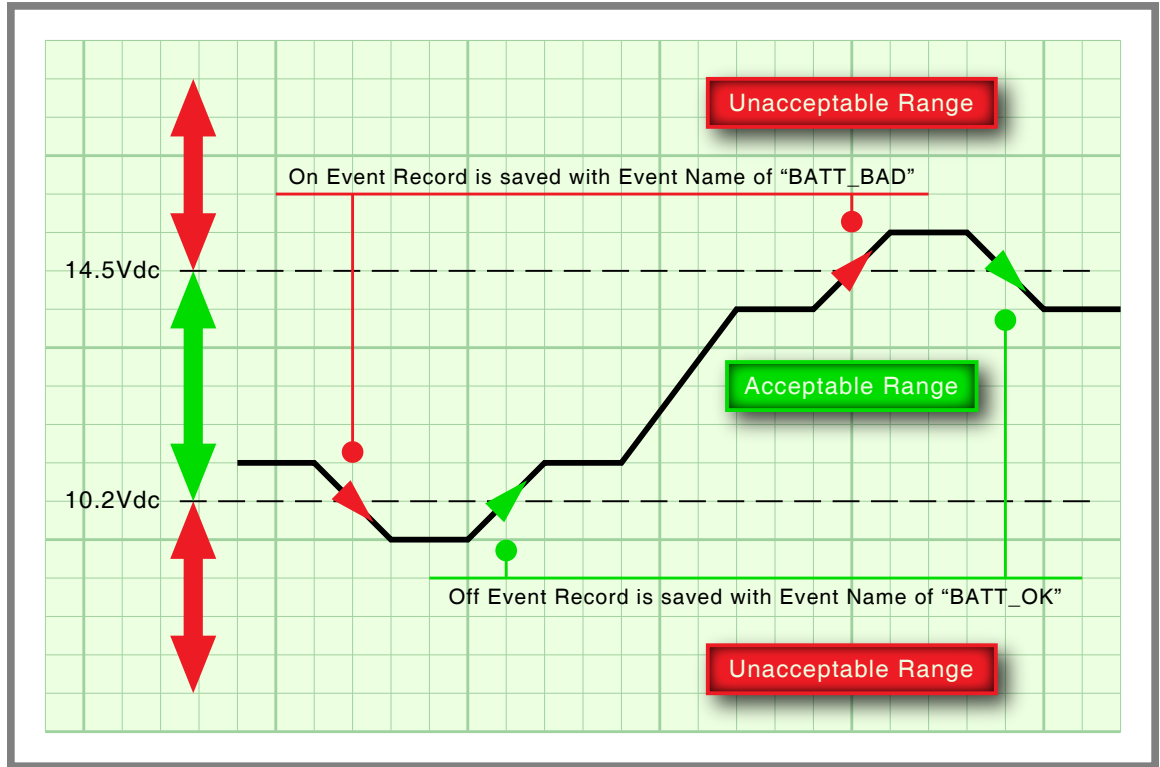

Figure 3: Analog Input Operating Ranges and Limit Values
Figure 3 on page 26 illustrates the relationship of the High and Low Limit Values to the Analog Input state. Each range defines the type of Event Record that is created by transitions of the input. The figure depicts an Analog Input configured to monitor a typical 12Vdc battery source. The figure indicates that the unacceptable range includes all voltages less than 10.2Vdc and all voltages greater than 14.5Vdc. The unacceptable range always consists of two portions separated by the acceptable range. If the input is within the range extending from 10.2 to 14.5Vdc the battery voltage is considered to be acceptable.
**On**—The Digital Input is defined as a logical 1 by the S7-300. The Analog Input level is outside the acceptable range as defined by the region between the Limit Values (refer to Figure 3 on page 26). The Virtual Input evaluates to a true logic state. The Timer Input has reported a timed interval that is either too fast or too slow as compared to its assigned High and Low Limit Values, respectively (refer to the section entitled "Timer Inputs \(W\)" on page 26).